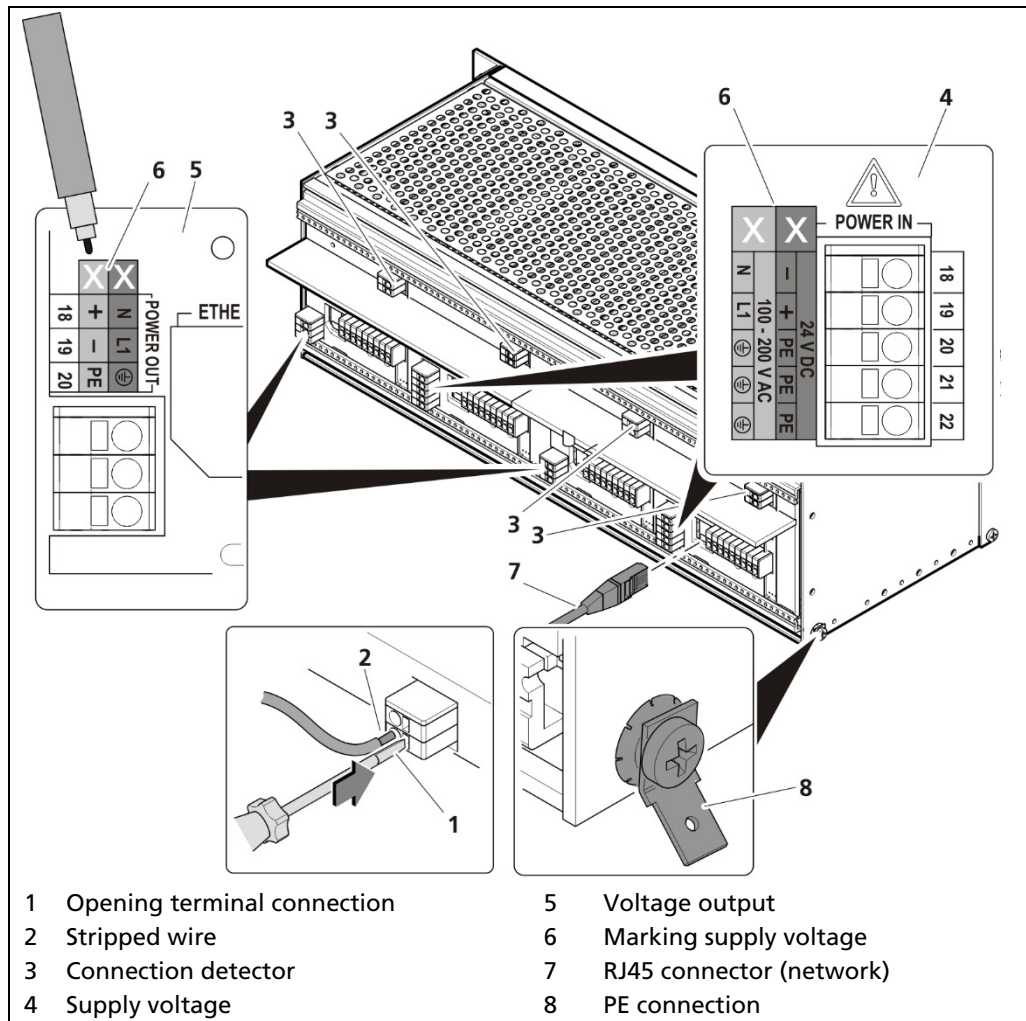

Fig. 11 Electrical connection in the 19" subrack (example: 2 backplanes)
1. Make sure that the locking bolts (Fig. 11, item 1) of all WVUs are tightened in order to prevent slipping.
2. Loosen the lock (Fig. 11, item 2) using the supplied square key and pull the subrack out.
4. Run the cables through the cable glands (Fig. 11, item 6) through the openings of the wall housing and through the counternut cable glands (Fig. 11, item 7).
5. Screw the cable glands (Fig. 11, item 6) with the counternut cable glands (Fig. 11, item 7).
Apply the voltage of the specified and marked (Fig. 11, item 3) range only!
7. Open the terminal connection (Fig. 11, item 4) with an operating tool (slotted screwdriver) and insert the stripped wire (min. 8 mm) (Fig. 11, item 5). The terminal connection closes by pulling out the operating tool. The terminal connections are designed for the flexible wires:
8. Plug the network plug into the RJ45 socket (Fig. 11, item 9) (optional).
9. Tighten all cable glands (Fig. 11, item 6) to ensure optimal sealing and tension relief until the gasket insert closes between screw down nut and cable.